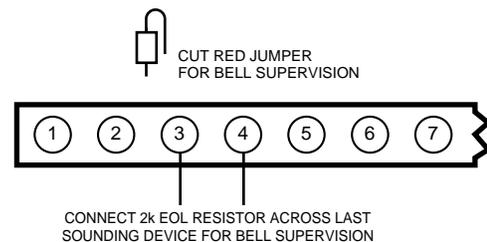

Figure 18. Bell Supervision Wiring
1. Cut the red Bell Supervision Jumper located above terminals 2 and 3 on the control board. See *Figure 18*.